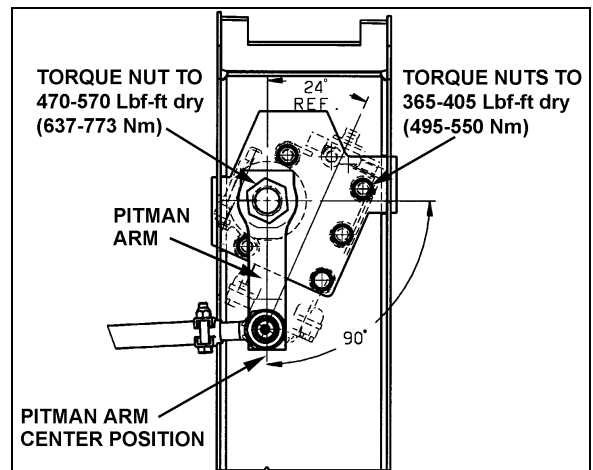

FIGURE 19: PITMAN ARM ALIGNMENT 14057
2. Afterwards, the pitman arm should be adjusted with reference mark aligned or to an angle of 90° in relation with the horizontal axis (Fig. 19).